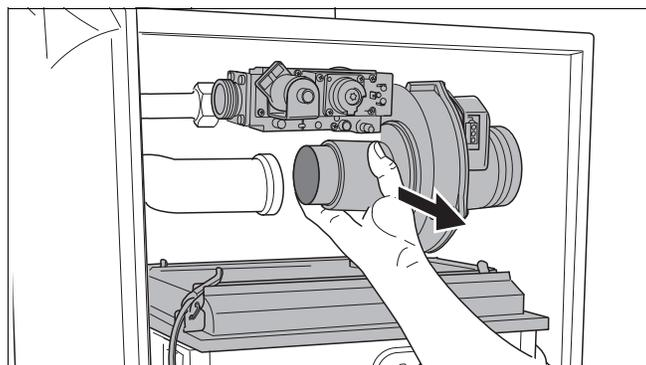

Fig. 84 Removing the burner cover with the gas/air unit
- Remove the burner cover with the gas/air unit (fig. 84).